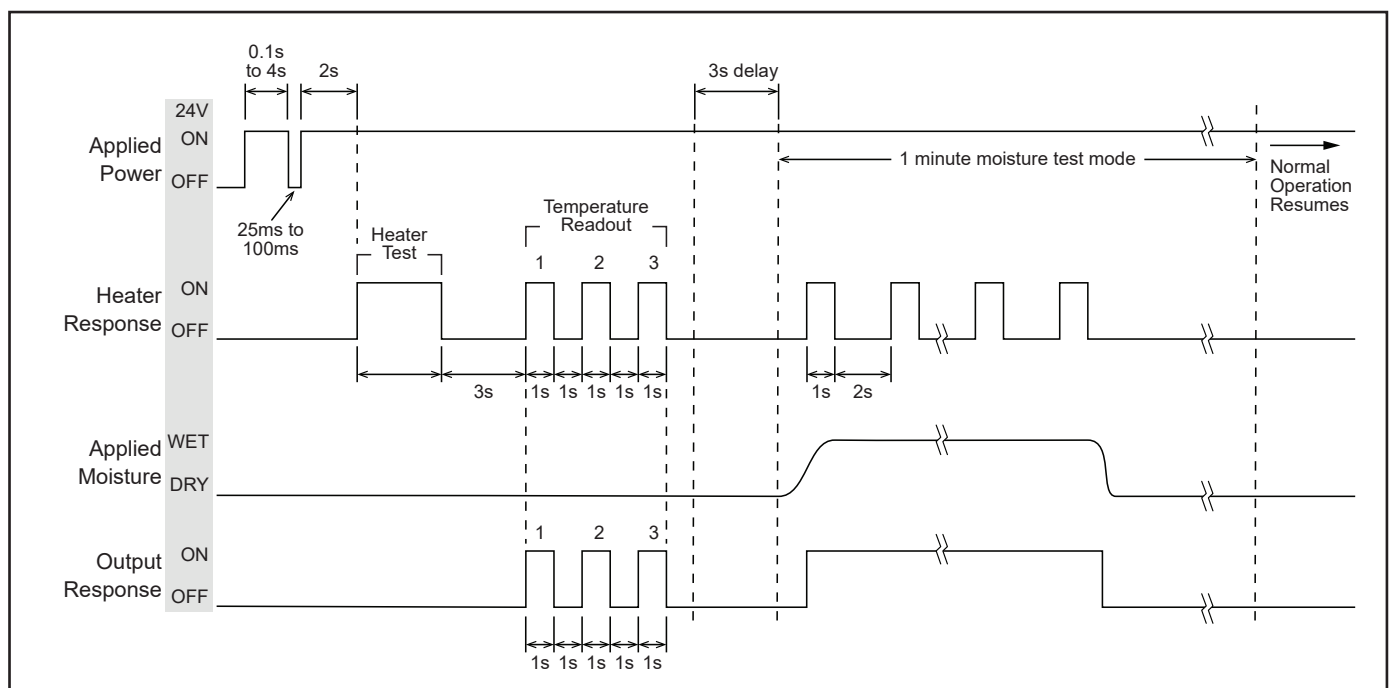

Figure 7. Sensor Self-Test Mode.
The self-test mode can be identified by the initial increase in current draw (part 5a, below). If that does not happen, it may be that self-test mode was not entered; this happens if the power-off pulse time is too long. In that case, remove power for at least two seconds, then repeat the off-pulse sequence (a-c) described above (Figure 7).
- b. As shown in Figure 7, the output and heater pulse some number of times to indicate the current temperature, measured to the nearest degree F. One pulse means below 38, 2 means at 38, 3 means above 38, 4 means there is a problem.